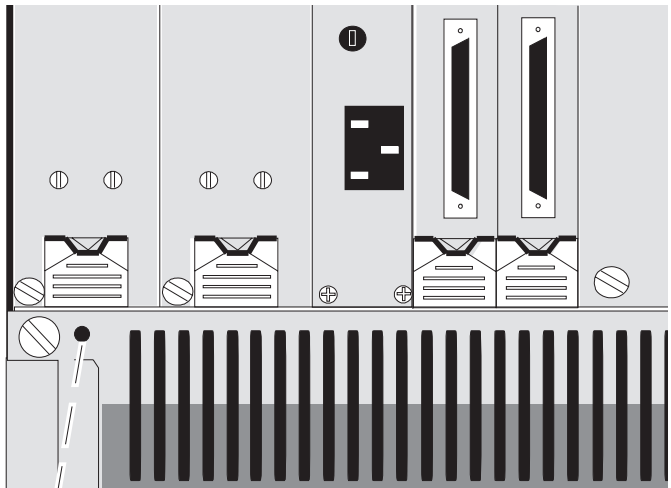

Figure 2-2 Installing the Locking Bar
- 1 Position the locking bar so that its two captive, fixing screws align with holes in the thermal management unit. Note that for clarity, the captive screws are shown removed from the bar in Figure 2-2.